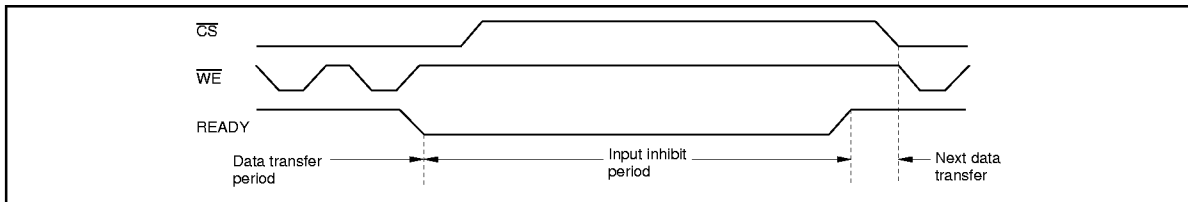

Figure 16 READY Output Timing (When It Is Always Available)
- a. READY is always available (Figure 16).